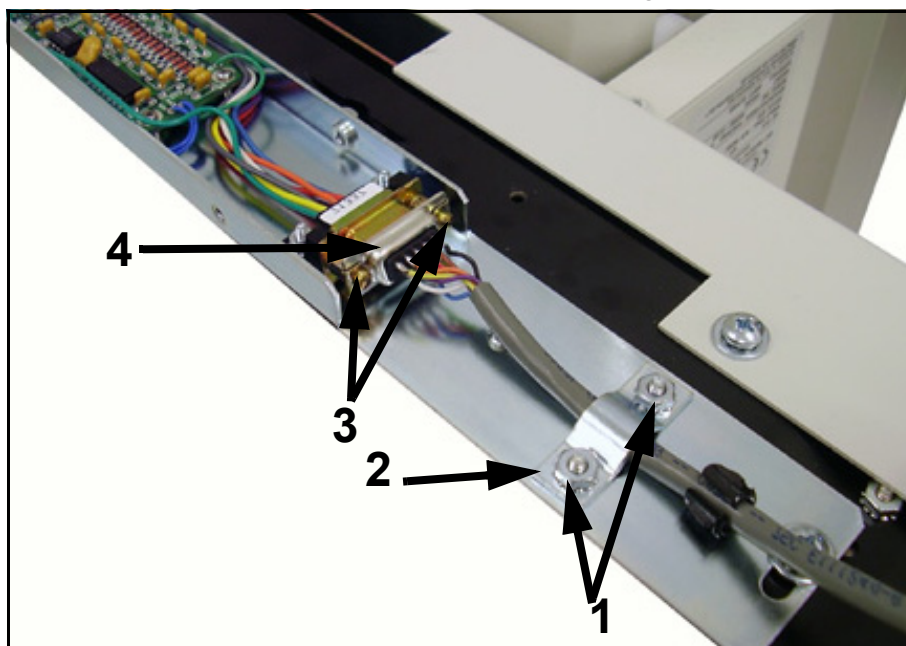

Figure 5-10. ION Chamber Screws
- 10 Unscrew the cable clamp nuts (1 in Figure 5-10) and remove the clamp (2).
- 11 Unscrew the two connector screws (3) and unplug the connector (4).